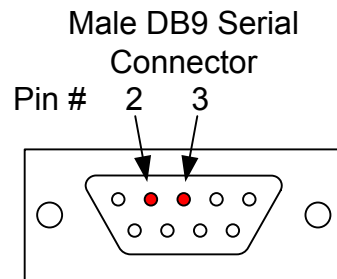

Figure 2
7. On the Male Side of the DB9 Serial Cable, short (connect) pins 2 and 3 as shown in Figure 2.